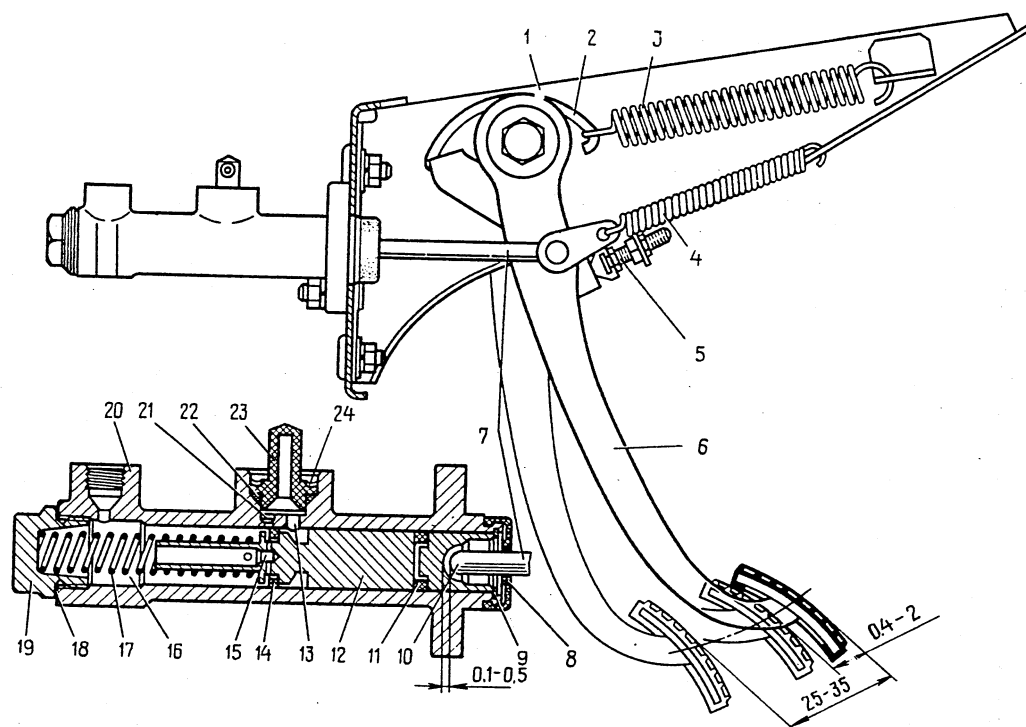

Fig.3-2. Clutch Pedal and Master Cylinder:
- set a clearance of 0.1 - 0.5 mm between the pushrod and piston of the master cylinder (Fig. 3-2). This clearance, required for a complete release of the clutch, is adjusted by clutch pedal stop 5. The clearance can be determined by the free travel of the pedal which is equal to 0.4 - 2 mm;